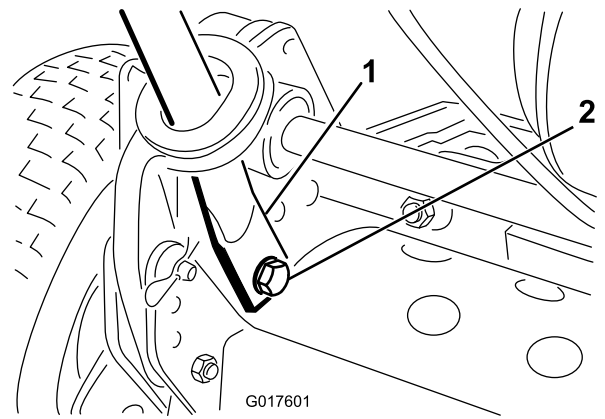

Figure 3
4. Squeeze the handle ends inward and install them on the mounting pins (Figure 3).
5. Secure the handle ends to the mounting pins with the bolts, washers, and lock washers previously removed (Figure 3).
6. Secure the handle arms to the rear of the frame with the hairpin cottes and the ring pins previously removed (Figure 3).